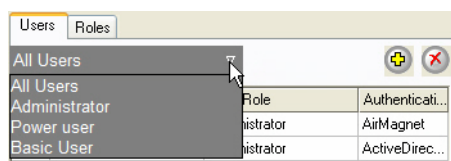

Figure 4-38: Selecting user display category
- 1) From the Manage Users and Roles dialog box, click the down-arrow on top of the screen to display the user list. See Figure 4-38.